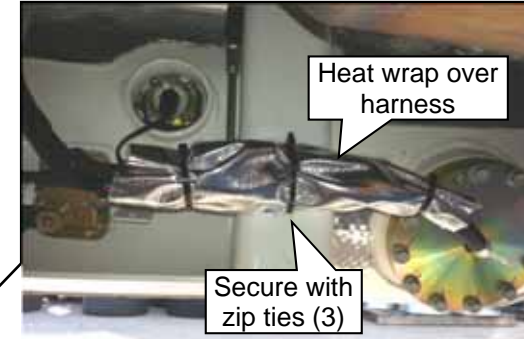
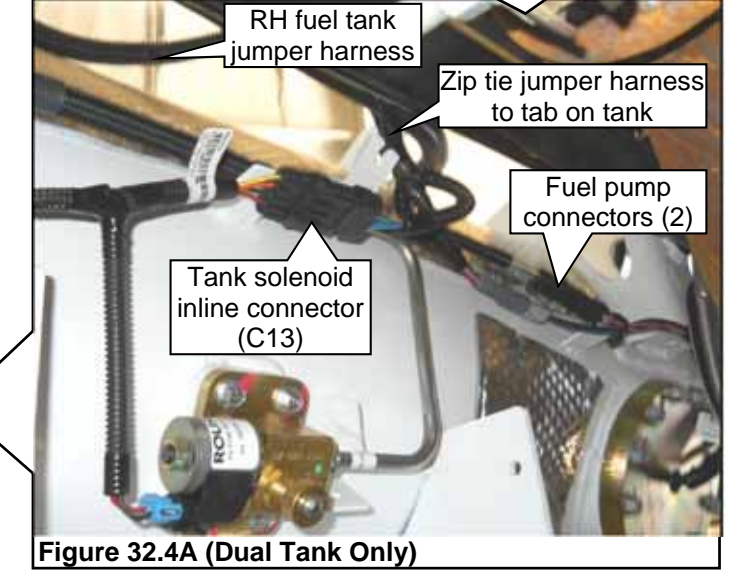

Figure 32.4B — RH Short Tank Shown (Dual Tank Only)
Figure 32.4A (Dual Tank Only)
3. **Dual Tank Only:** Make connections from RH tank jumper harness to the two fuel pump connectors and tank solenoid harness connectors. Zip tie the jumper harness to the tab on the RH tank. **Figure 32.4A.** Install heat wrap (from kit P13FB-TANK-B) over wiring harness on RH short tank as shown. Secure wrap with three zip ties as shown. **Figure 32.4B.**